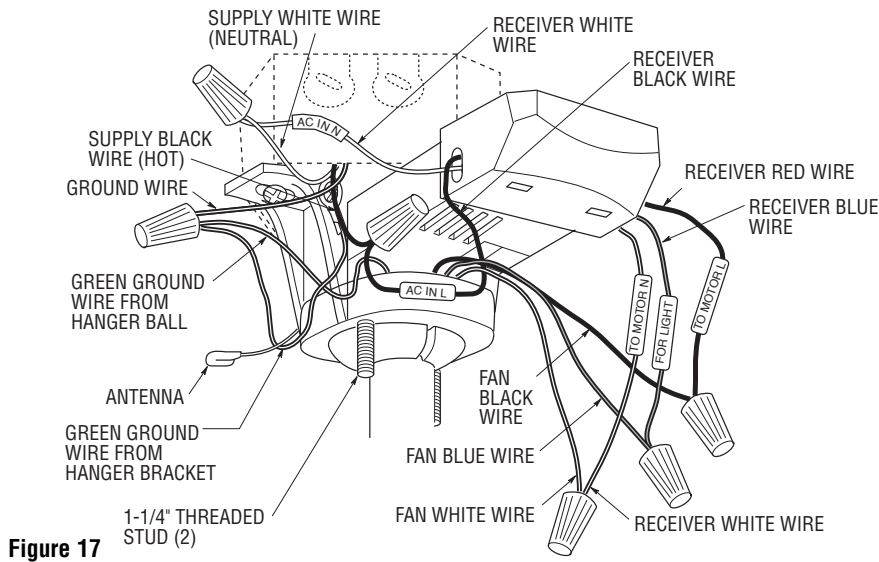

Figure 17
- 1. Position the supply wires to the left side of the outlet box (Figure 17); position the fan wires to the right side. Partially insert the remote control receiver (flat side up) until one end rests on the hanger ball as shown in Figure 17.
- 2. Refer to Figure 17 and 18 and connect the receiver wires to the supply wires and the fan motor wires as follows: